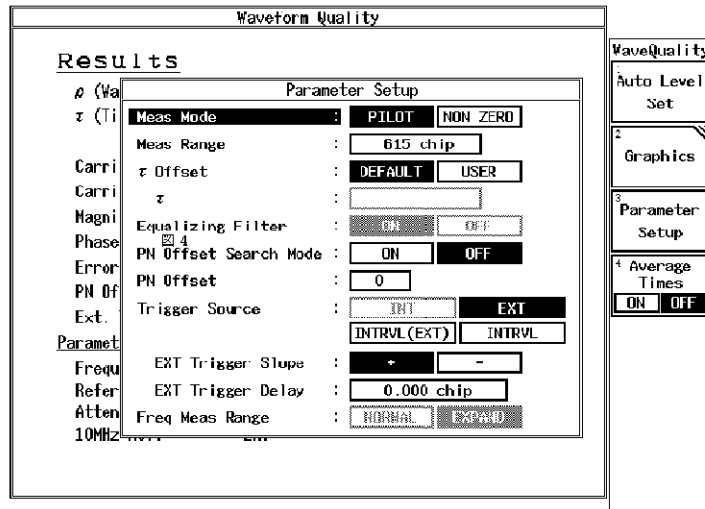

Figure 6-5 Setting of Measurement Parameter for Reverse Link Waveform Quality Test
7. On the R3267 Series, set the measurement parameter as shown in Figure 6-5.